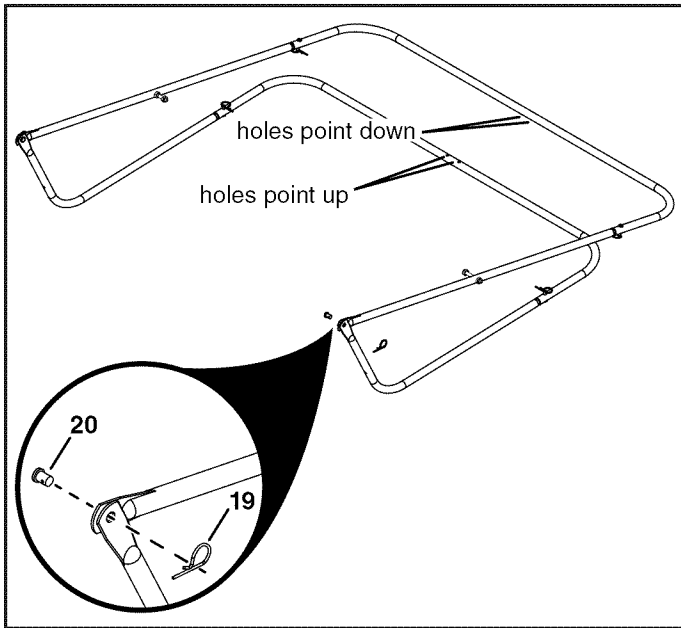

FIGURE 9
STEP 9: (SEE FIGURE 9)
- Attach the upper and lower hopper tubes together using two 3/8 x 1/2" clevis pins (20) and small hairpin cotters (19).